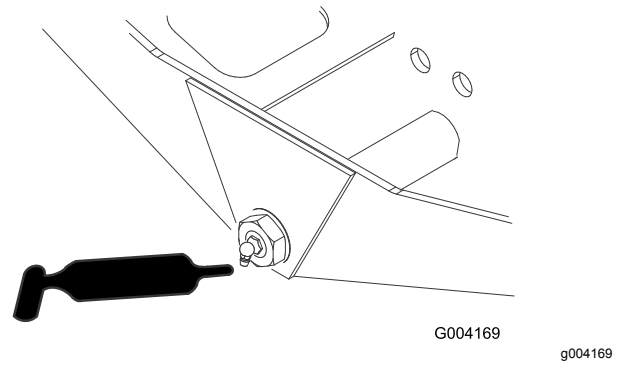

**Figure 46**
- Cutting unit lift arm cylinders (2 each) (Figure 46)
- Lift arm pivots (1 each) (Figure 46)